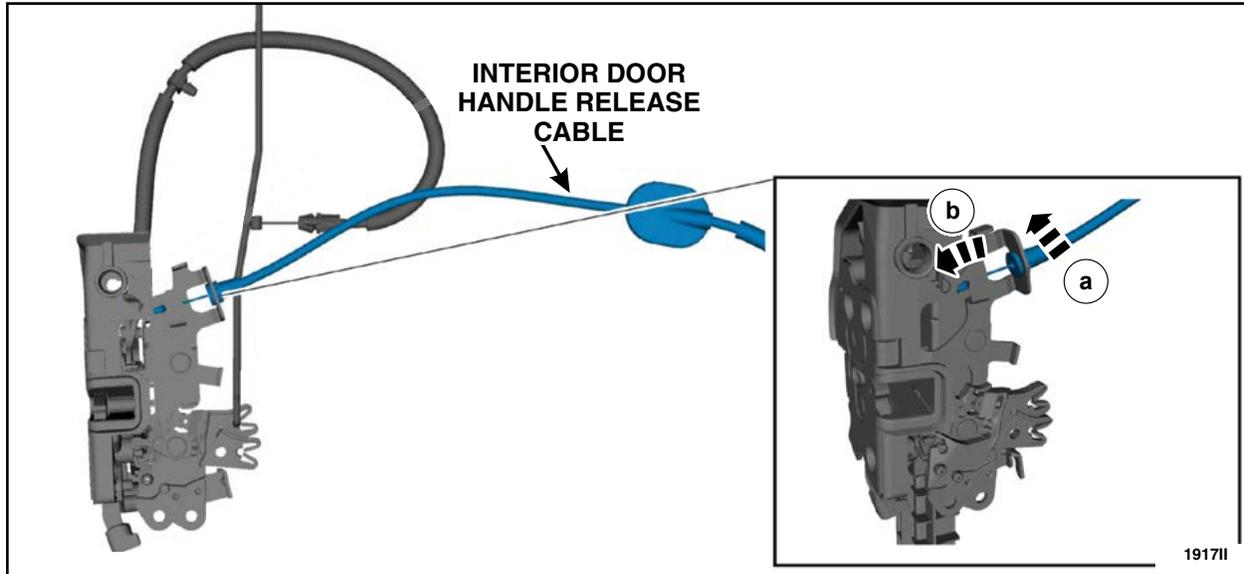

FIGURE 5
NOTE: Certain vehicles are equipped with an interior door handle release cable retaining bracket on the front door latch. The interior door handle release cable is serviced in a similar manner as shown in Figure 5 whether or not a cable retaining bracket is present.
5. Replace the interior door handle release cable. See Figure 5.